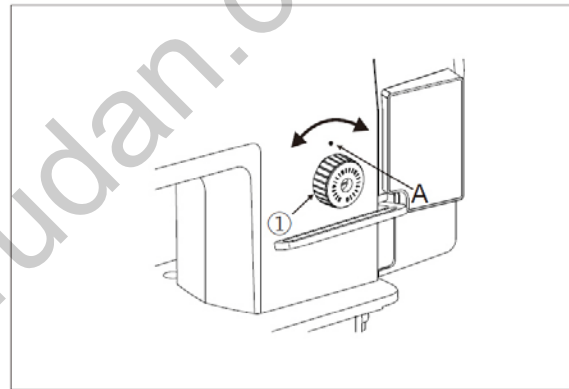

Fig.21
As is shown in Fig.21, the number marked by the stitch adjusting dial (1) signifies the stitch length in mm units. Move the dial sideways to set it to the desired stitch length (Turn it in clockwise direction and the stitch length will decrease while turning it counterclockwise will increase the stitch length).